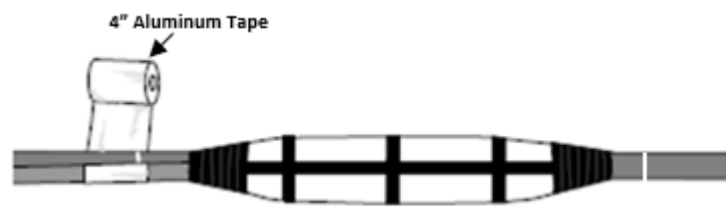

Figure 11
22. Wrap 1 lap of aluminum tape around the cable overlapping the mark by 1" toward the splice. (If using a C or D kit, overlap 2") Using a blunt object, smooth the edges of the aluminum tape against the cable. (Figure 11)